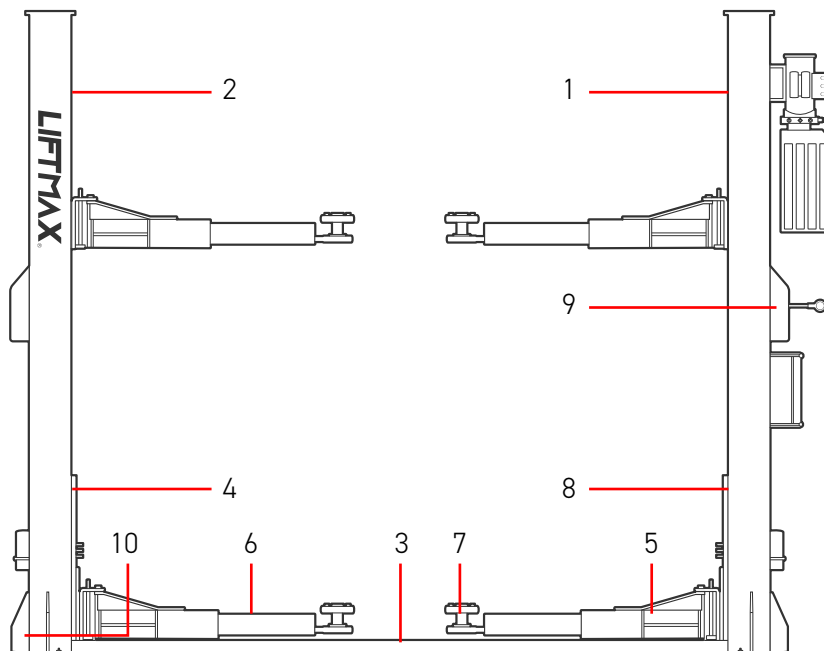

Fig. 4
1.1 FIXED STRUCTURE (FIG.4)
1.2 MOVING UNITS (SEE FIG.4)
1.3 LIFT UNIT (SEE FIG.4)